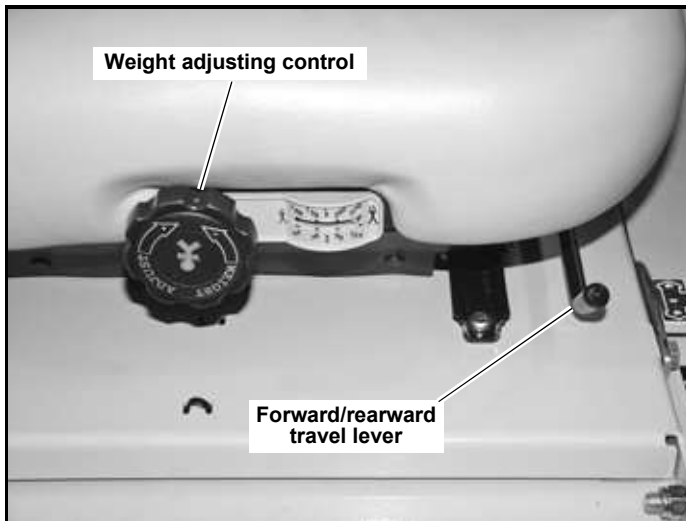

Figure 4-13
2. Forward and rearward travel (Figure 4-13)
3. Weight (Figure 4-13)